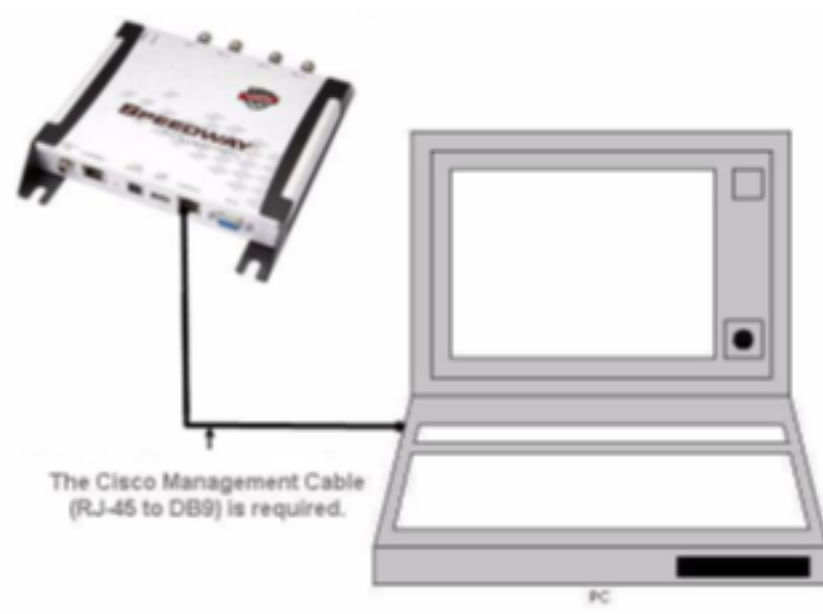

Figure 5.5 Speedway Revolution Serial Connection
2. Use a Cisco style Console cable RJ-45 to DB9, Impinj part number IPJA4000000, to connect your PC's valid/active COM port to the serial port on the Reader, as shown in Figure 5.5.